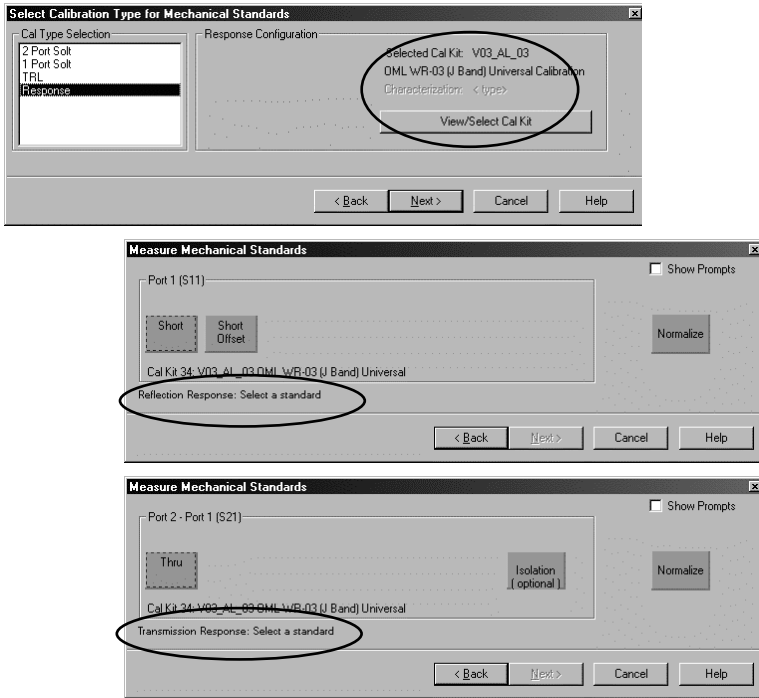

Figure 43. Response calibration and associated standard selection for Reflection Response and Transmission Response.
- This returns to the previous page, and the *Cal Kit* information has been updated (Figure 43, top). Make sure *Response* is highlighted on the left. (If not, click on it once.) Click **Next>** to start the *Response* calibration.
Your *Response* calibration selection will be different depending on your active trace. If the active trace is S11, then you will see the standard selection for *Reflection Response*, as those shown in Figure 43 middle. If the active trace is S21, then the standard selection are those for *Transmission Response*, as those shown in Figure 43 bottom.